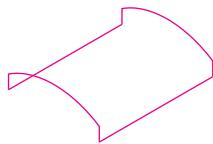

Fig. 17.28 Example – **Edgesurf** adding lines joining the plines
7. With the **Line** tool, draw lines between the ends of the two plines using the **endpoint** osnap (Fig. 17.28). Note that if polylines are drawn they will not be accurate at this stage.